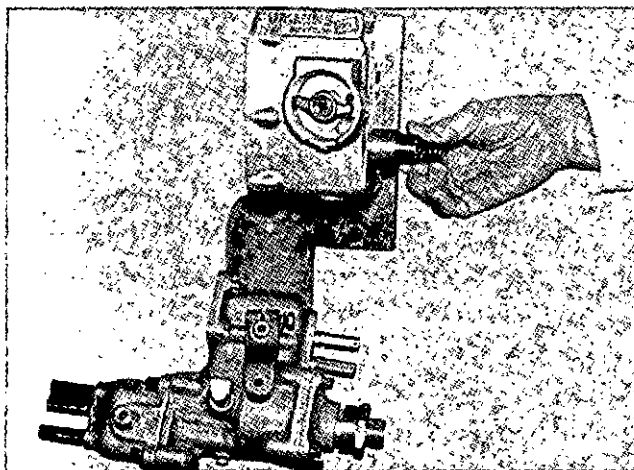

Fig. 4-15, (F551). Install the plunger.
1. Install the engine governor plunger, spring retainer and spring, Fig. 4-15. Use the correct parts for the pump being built. See Table 4-3 and the fuel pump code.